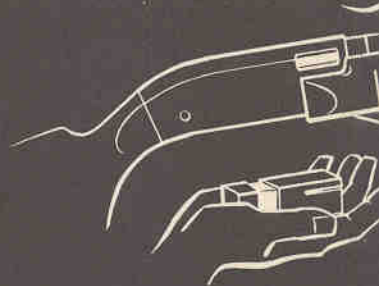

FIG. 4
**TO REMOVE BOLT:** With gun still upside-down, place right hand over bottom of receiver, from where trigger-guard assembly was removed. Turn gun over. Then, with the left hand, pull forearm back slowly and bolt will drop out into right hand (see Figure 4). Keep forearm in this position until ready to assemble gun.